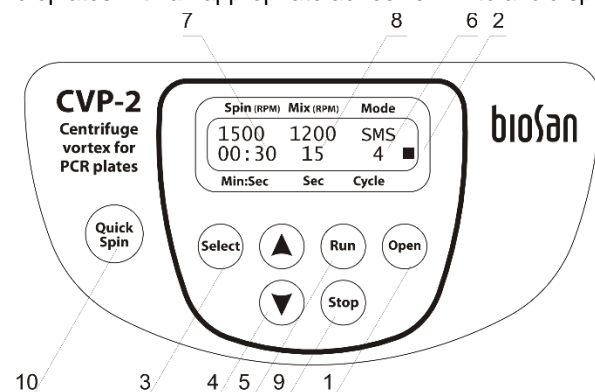

Figure 2. Front panel
- 5.3 Press the **Open** key (fig. 2/1) and open the lid by lifting it upwards by hand (indication ■ will appear in the Mode bottom line, fig. 2/2). Lid will open only with rotor stopped.
- 5.7 **Quick centrifugation.** Press the **QS** (fig. 2/10) button for quick mixing / sedimentation and hold it pressed for the desired time. The unit will automatically when the **QS** button is released.
5.8.1 By pressing **Select** key (fig. 2/3) choose a parameter to change. Each pressing of the **Select** key consecutively activates parameters in operation cycle; currently active parameter is indicated by blinking.
5.8.2 Use ▼ and ▲ keys (fig. 2/4) for setting the corresponding values. Pressing a key for longer than 2 seconds will increase change rate.
5.13 Press **Run** key (fig. 2/5) to start operation.
5.14 Rotor will begin rotating and, on the display, indication ► (fig. 2/2), cycle countdown (fig. 2/6) and changing parameters of the current mode (fig. 2/7 and fig. 2/8).
5.15 Operation can be stopped before the set number of cycles elapses, if necessary, by pressing the **Stop** key (fig. 2/9).
5.16 Unit stops automatically after executing set number of cycles (blinking indication ■ on display, fig. 2/2) and the lid unlocks automatically. A sound signal is emitted after full stop of the rotor. Press **Stop** key (fig. 2/9) to stop the signal.